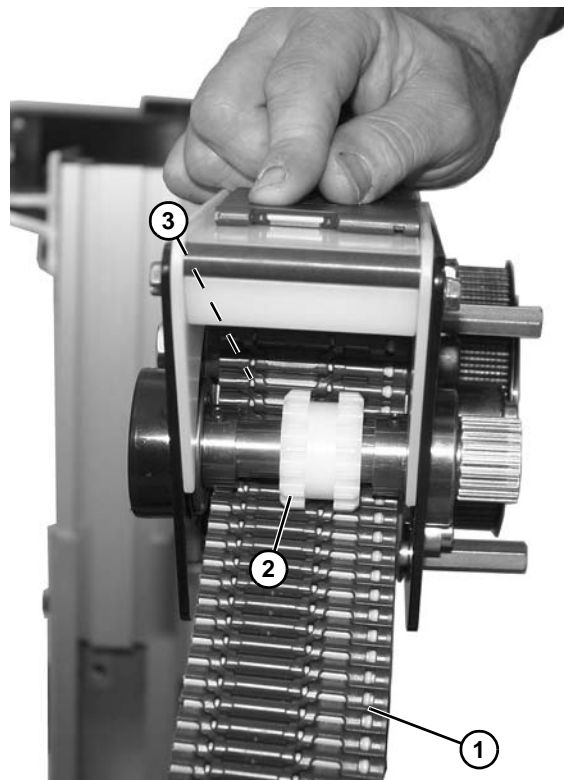

Figure 177
6. Guide belt (**Figure 177, item 1**) through idler assembly with belt routing under gear (**Figure 177, item 2**) and over wear tube (**Figure 177, item 3**).